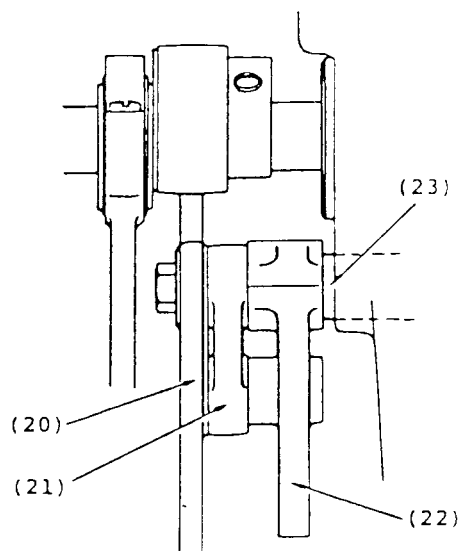

Fig. 13
NOTE: When making above adjustment, push the eccentric lightly to the right so that feed rock shaft crank connecting rod (20), feed connecting link (21), feed regulator (22), and feed regulator hinge stud (23) are lightly in contact with each respective part with no binding or excessive play between the parts. (Fig. 13)